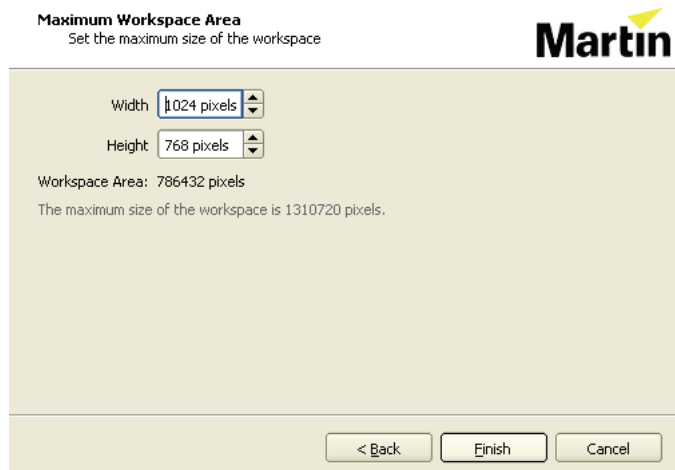

Figure 7: Workspace area window
- See Figure 7. Select the maximum workspace area for the configuration. This is set to 1280 x 1024 pixels by default. You can either accept the default area, or if you know the total width and height in pixels of your installation, including any gaps or empty areas, you can enter it to avoid unnecessary processing by the P3-100.